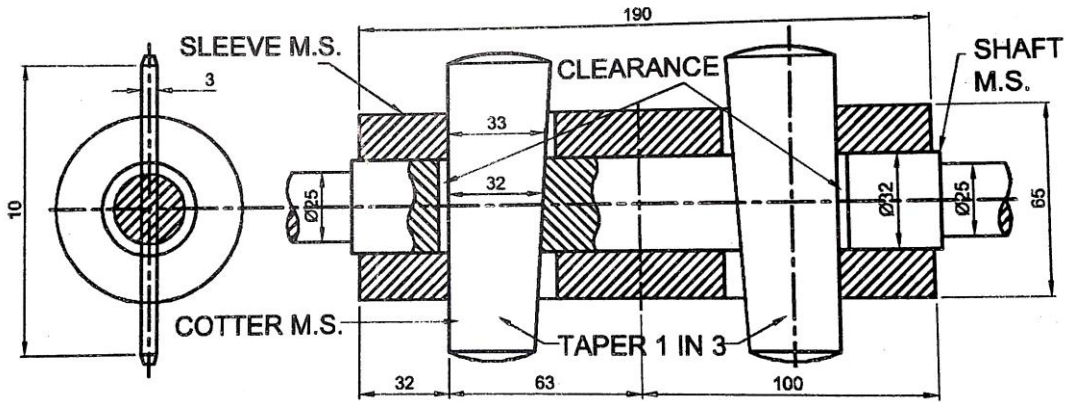

Fig.2
- 1 Fig. 2 shows the assembly drawing of cotter joint with sleeve, prepare its detailed drawing. **10**